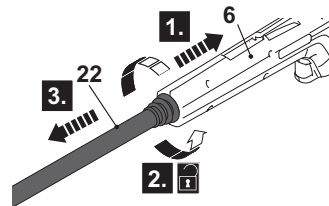

Fig. 11
- > Press the extension lance (22) towards the spray gun (6) and turn it anti-clockwise to remove it (Fig. 11).